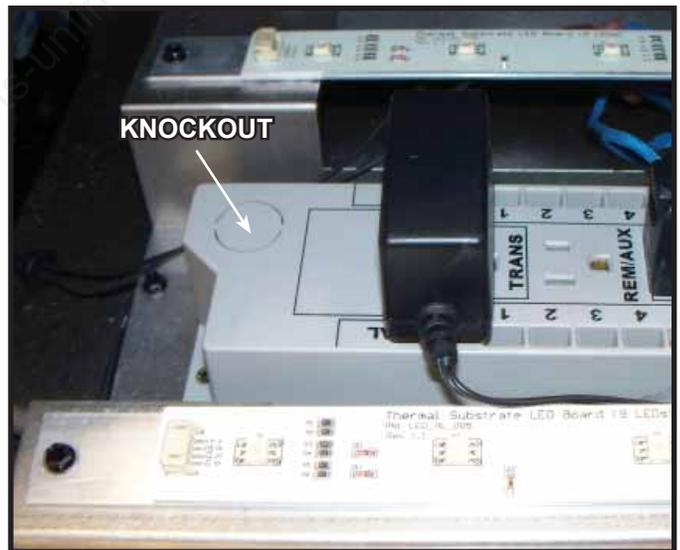

Figure 8.1 Junction Box Detail
2. Route the wire through the strain relief in the outer wrap and down through the knockout located on top side of the junction box. See Figure 8.1.
In the event that the junction box may need to be accessed or installed after finish methods have been applied, access is possible by removing the valve assembly. See Figure 8.1.